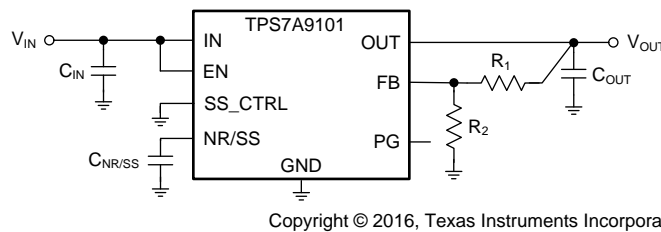

Figure 38. Adjustable Operation
The output voltage of the TPS7A9101 can be adjusted from 0.8 V to 5.2 V by using a resistor divider network as shown in Figure 38.
(1) R₁ is connected from OUT to FB; R₂ is connected from FB to GND; see Figure 38.